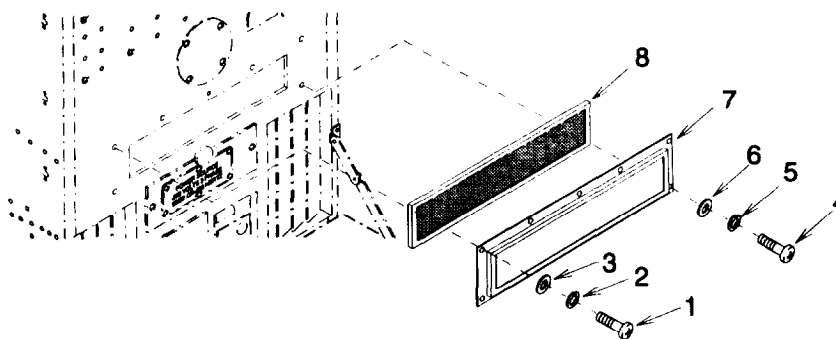
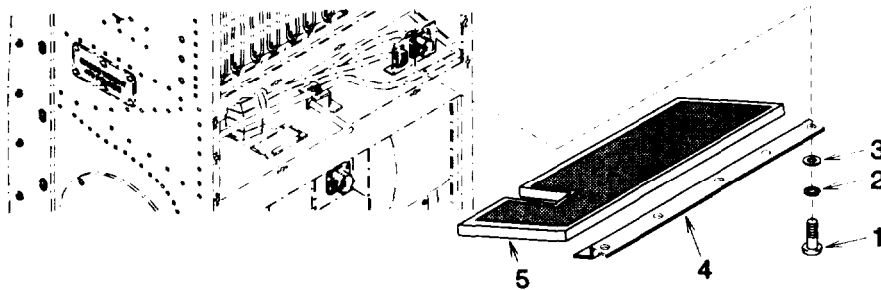

Figure 3-19. Fresh Air Filter
Figure 3-20. Conditioned Air Filter
(1) Fresh Air Filter.
- (b) Remove five screws (1) Figure 3-19, lock washers (2), and flat washers (3). Discard lock washers.
- (c) Remove two screws (4), lock washers (5), flat washers (6), filter frame (7), and air filter element (8). Discard lock washers.
(2) Conditioned Air Filter.
- (b) Remove five screws (1) Figure 3-20, lock washers (2), flat washers (3), upper filter support (4), and conditioned air filter (5). Discard lock washers.
(1) Fresh Air Filter
- (a) Install air filter element (8) Figure 3-19, filter frame (7), two screws (4), new lock washers (5), and flat washers (6).
- (b) Install five screws (1), new lock washers (2), and flat washers (3).
- (a) Install conditioned air filter (5) Figure 3-20, upper filter support (4), five screws (1), new lock washers (2), and flat washers (3).